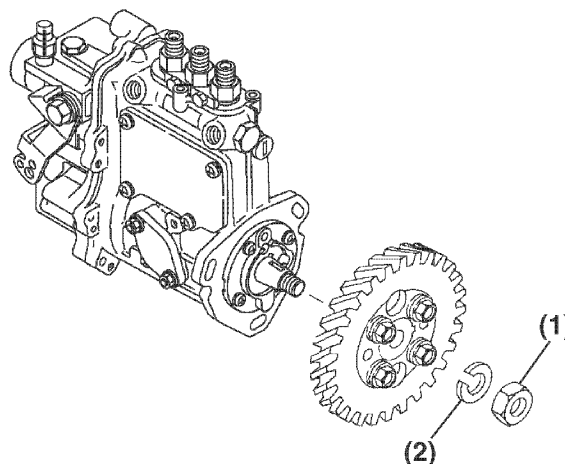

Figure 7-18
5. Reinstall the fuel injection pump drive gear lock washer (Figure 7-18, (2)) and nut (Figure 7-18, (1)). Do not lubricate threads of the nut or shaft. Hold the crankshaft pulley bolt with a socket wrench and tighten the drive gear nut to the specified torque. See Special Torque Chart on page 7-7.